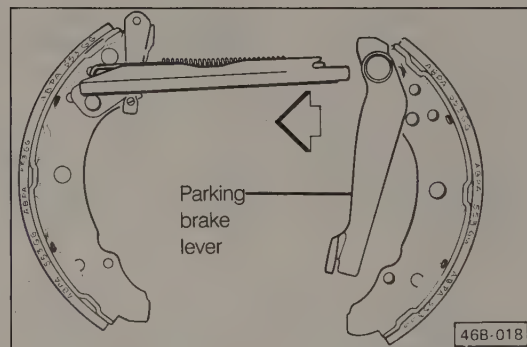
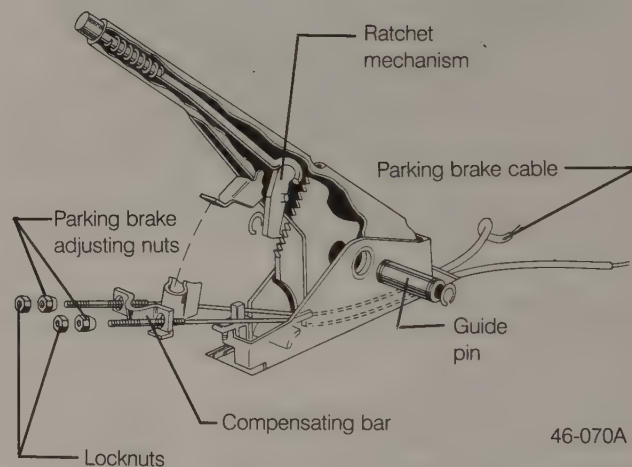

Fig. 6-6. Rear brake shoe with parking brake lever being attached to front shoe and adjusting bar. Shoes are held together by upper return spring.
Fig. 6-7. Cut-away view of parking brake lever assembly showing cable connections and internal ratchet.
3. Attach the rear brake shoe (with parking brake lever) as shown in Fig. 6-6, then install the upper return spring.
The parking brake lever and its cable connections are shown in Fig. 6-7. The mechanical parking brake operates only on the rear wheels, and is independent of the hydraulic brake system. Each of the two parking brake cables is connected to a lever on one of the rear brakes shoes. See Fig. 6-6 above. When the parking brake lever is pulled, the brake shoes are forced out against the brake drum.
The parking brake operates only on the rear wheels. It is mechanically actuated, and is independent of the hydraulic brake system. Fig. 6-7 above is a cut-away view of the parking brake lever assembly. The lever operates two separate, replaceable cables connected to the rear brake calipers. When the lever is pulled, the actuating lever on the caliper applies pressure to the brake caliper piston.